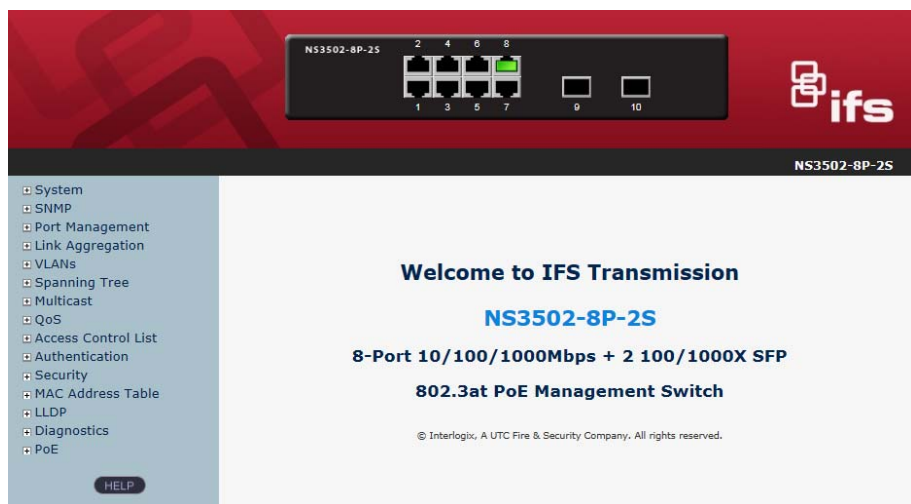

Figure 6-3: Web Main Screen of Managed Switch
3. After entering the password, the main screen appears as Figure 6-3.